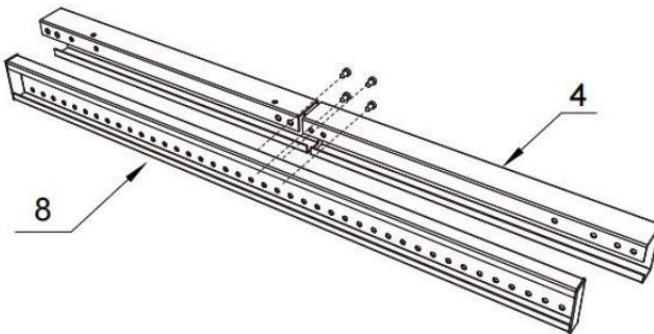

Figure 3
4. Secure with 4pcs M5* 10 Cross head screws(⑧) through into the holes in the Corner Brackets and Center Sections. (Figure 3)